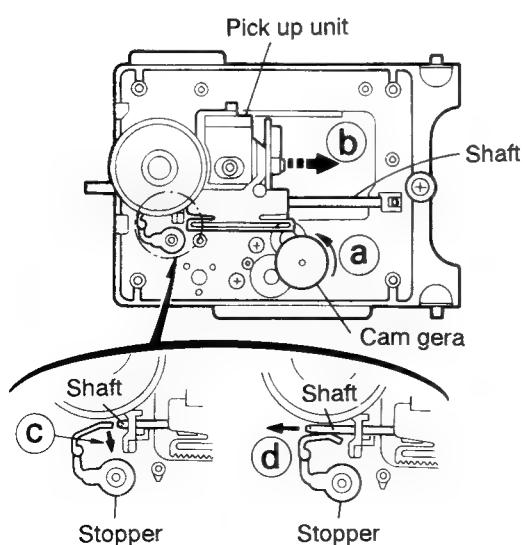

Fig. 5-27
■ Removing the CD pickup unit (See Fig. 5-27).
1. Move the cam gear in the arrow direction ④. Then, the CD pickup unit will be moved in the arrow direction ⑤.
2. According to the above step, shift the CD pickup unit to the center position (See Fig. 5-27).
3. While pressing the stopper retaining the shaft in the arrow direction ③, pull out the shaft in the arrow direction ④ (See Fig. 5-27).